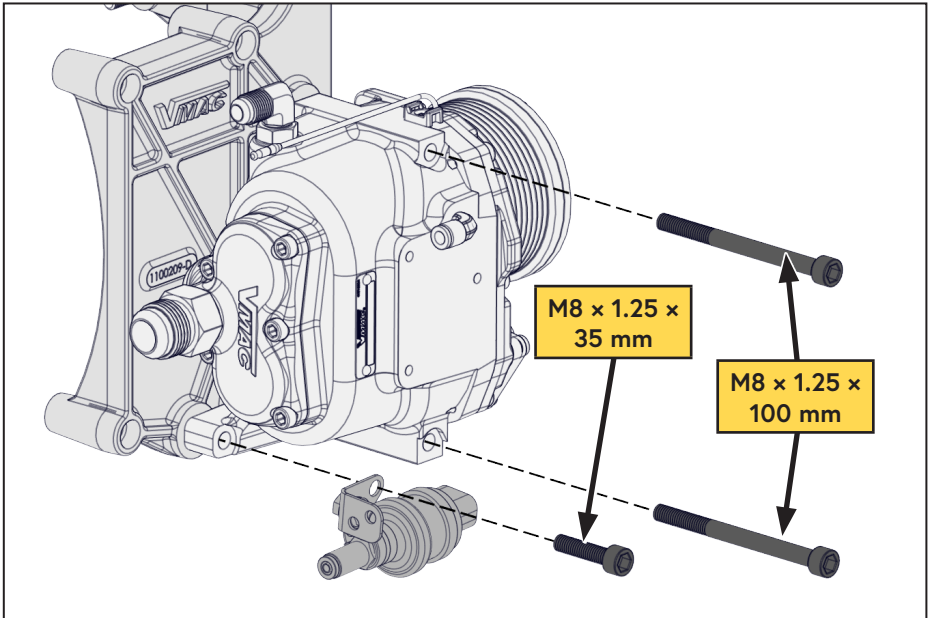

Figure 13 — Mount compressor
- Apply Loctite 242 (blue) and mount the compressor onto the bracket using the ×3 supplied fasteners (Figure 13).